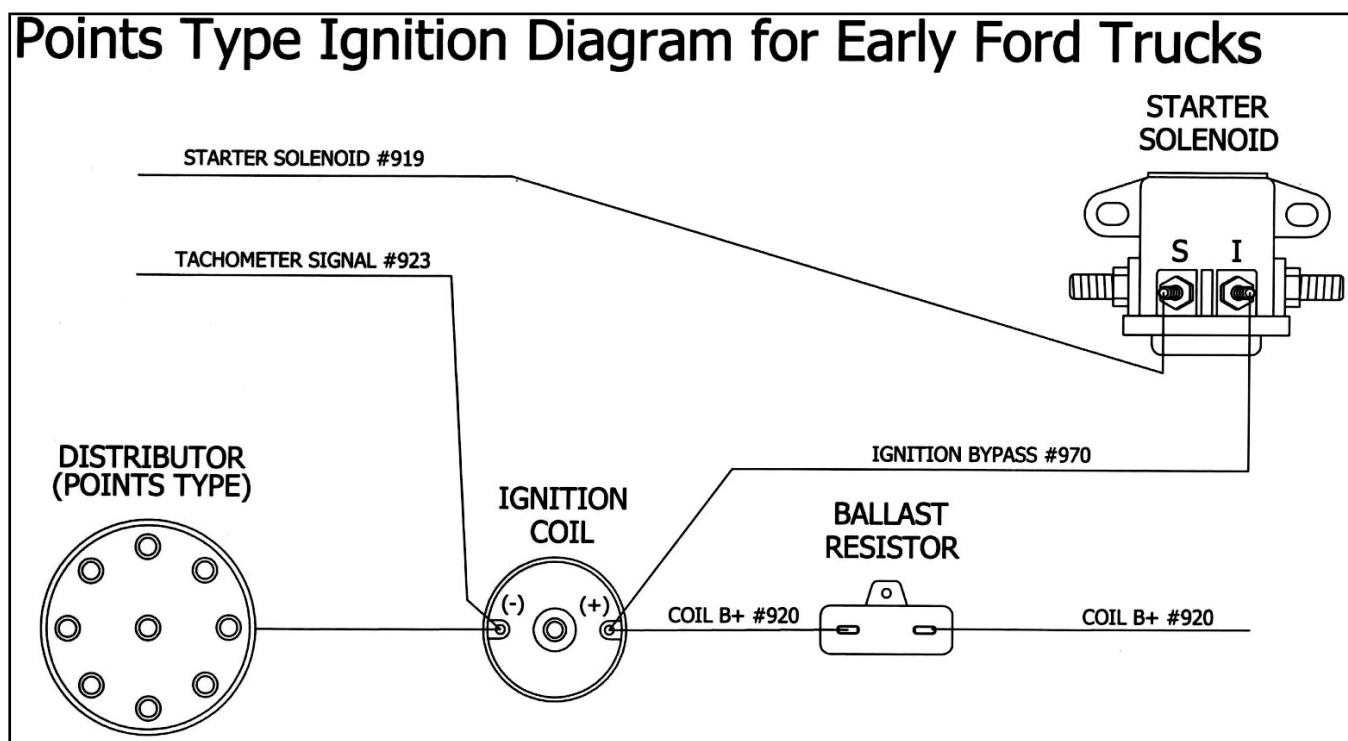

Figure 7-8 Points Style Ignition Diagram
Points: Steps 7.3.1 thru 7.3.3 and Figure 7-8
- 7.3.1** Connect ENGINE SECTION wire red/green #920 to one side of the ballast resistor. Using the remainder cut off of red/green #920; connect the other side of the ballast resistor to the positive post on the ignition coil. A ballast resistor is included in the parts kit. Be sure to mount it away from anything sensitive to heat, because it gets very hot. **See Figure 7-8.**
- 7.3.2** Connect ENGINE SECTION wire brown #970 directly to the positive post on the ignition coil or the coil feed side on the ballast resistor. The other end is to be connected to the “I” terminal on the starter solenoid. **See Figure 7-8.**
- 7.3.3** Connect ENGINE SECTION wire red/blue #919 to the “S” terminal on the starter solenoid. If using a Tachometer, connect ENGINE SECTION wire red/yellow #923 to the negative side of the ignition coil. **See Figure 7-8**